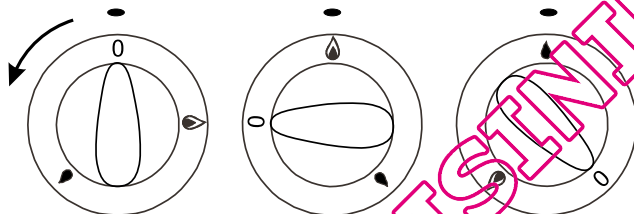

Fig. 8 Gas cock knob
- set the knob on position – minimum flame (fig. 8), and then, not changing this position – take it off the knob shaft,